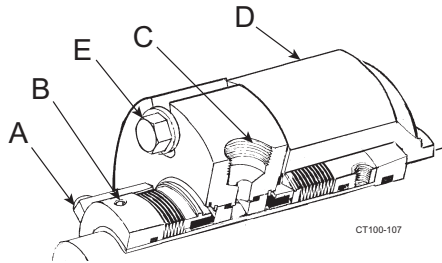

Figure 58 - Typical Cartridge Seal
**NOTE:** Be sure the flushing ports in the cartridge seal are positioned with the inlet toward the bottom and the outlet toward the top (Figure 58, item C).
14. Hold the backplate in place and tighten the cartridge seal into the cartridge adapter by tightening the cap screws (Figure 58, item E).
16. Tighten the two setscrews to the shaft (Figure 58, item B).
17. Remove the lugs/spacers (Figure 58, item A).